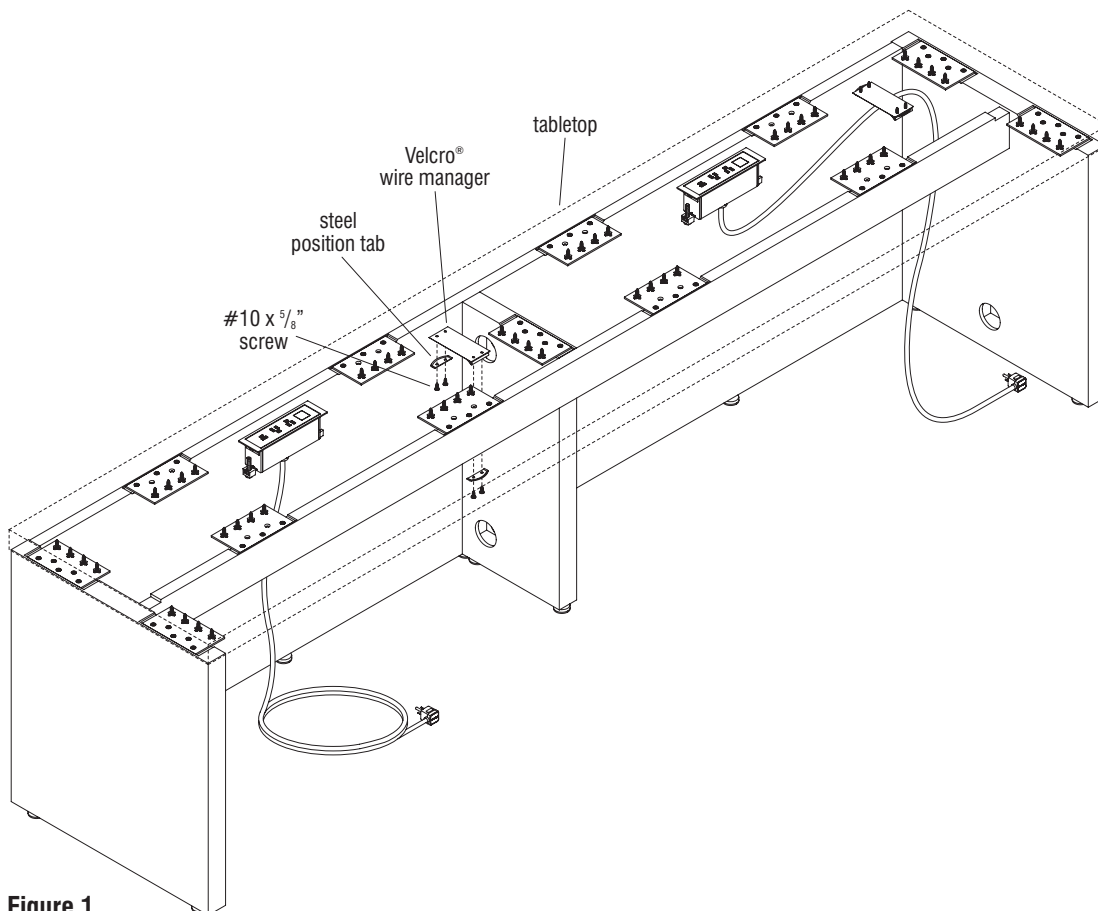

Figure 1
1. With one person underneath the table, determine the desired location to mount the Velcro wire manager(s) (Figure 1 & Detail A).
2. Position a Velcro wire manager over the pre-drilled wire manager holes on the underside of the tabletop. Locate and place two steel position tabs, one at each end over the mounting holes in the wire manager, then secure using four #10 x 5/8” screws, through the two position tabs, wire manager mounting holes and into the tabletop. Do not over-tighten. Repeat this step to install any additional Velcro wire managers (Figure 1 & Detail A).